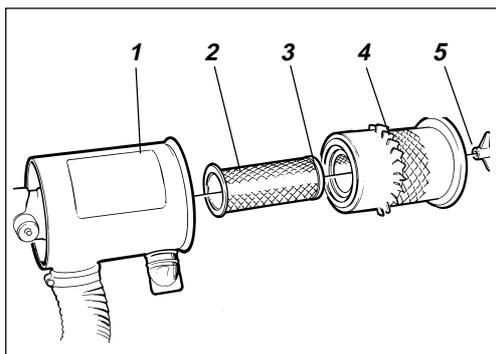

Fig. 13 Air cleaner
Make sure that the engine hood is fully open. Change or clean the main filter (4) fig.13 of the air cleaner when the indicator (1) is in the red zone while the engine is running at full revs.